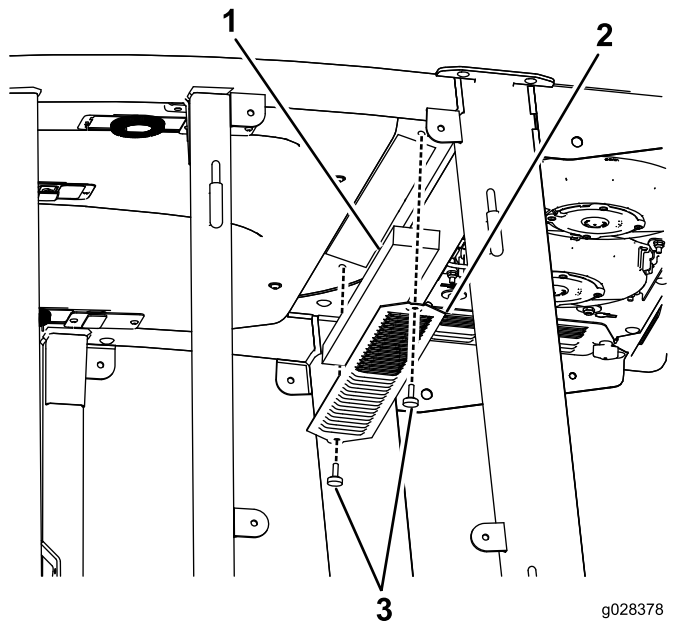

Figure 121
1. Remove the screws and grates from over both the in-cab and rear cab-air filters (Figure 121).